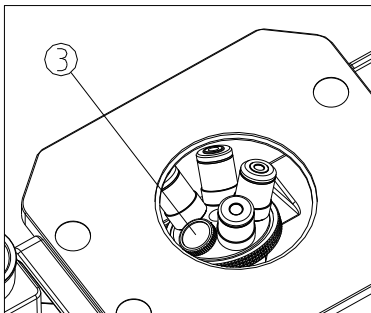

Fig. 3
★ Cover all the holes with the dust cap (3) to avoid the dust and dirt entering. (See Fig.3)